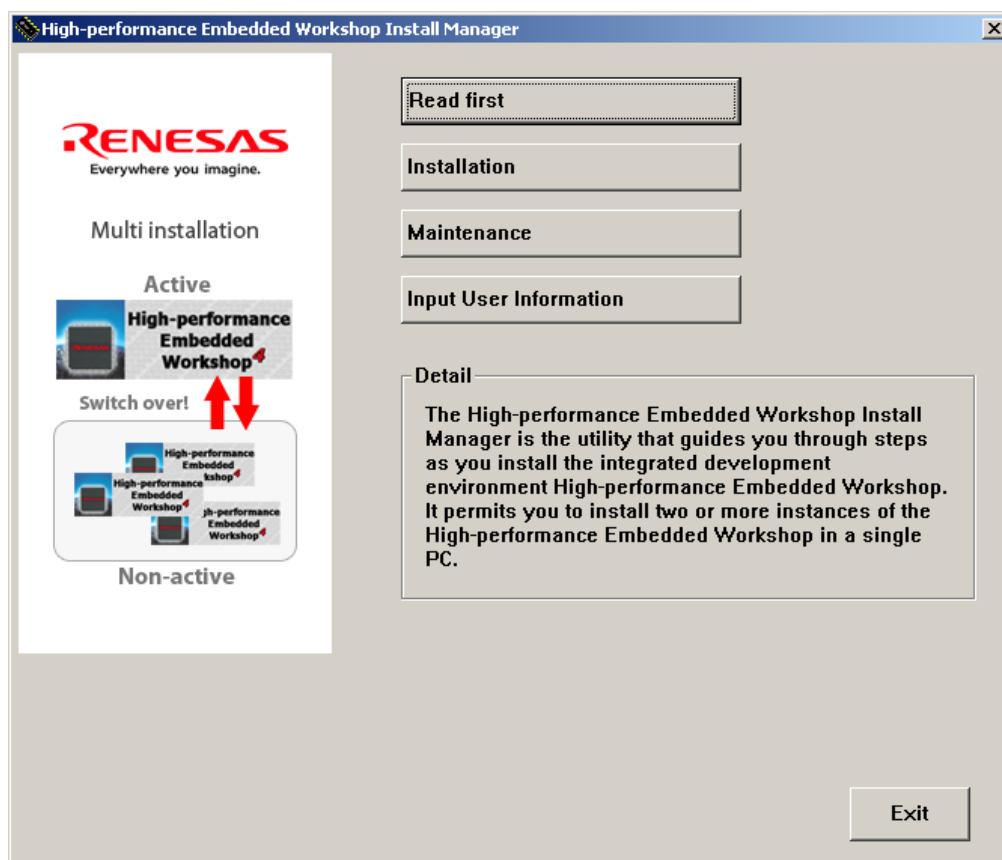

Figure 3.1.4 Installation Procedure (4/4)
- (5) Follow the on-screen instructions to continue installation. When all installation is completed, following window will appear as Figure 3.1.4. Click “Exit”.